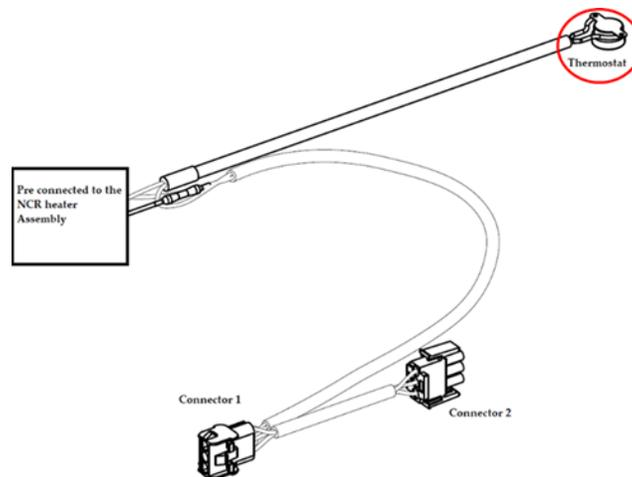

Figure 113
- 9) Secure thermostat (identified in Figure 113) to any available hole or slot along the bottom of the NCR heater assembly using a provided cable tie (006-8616073).